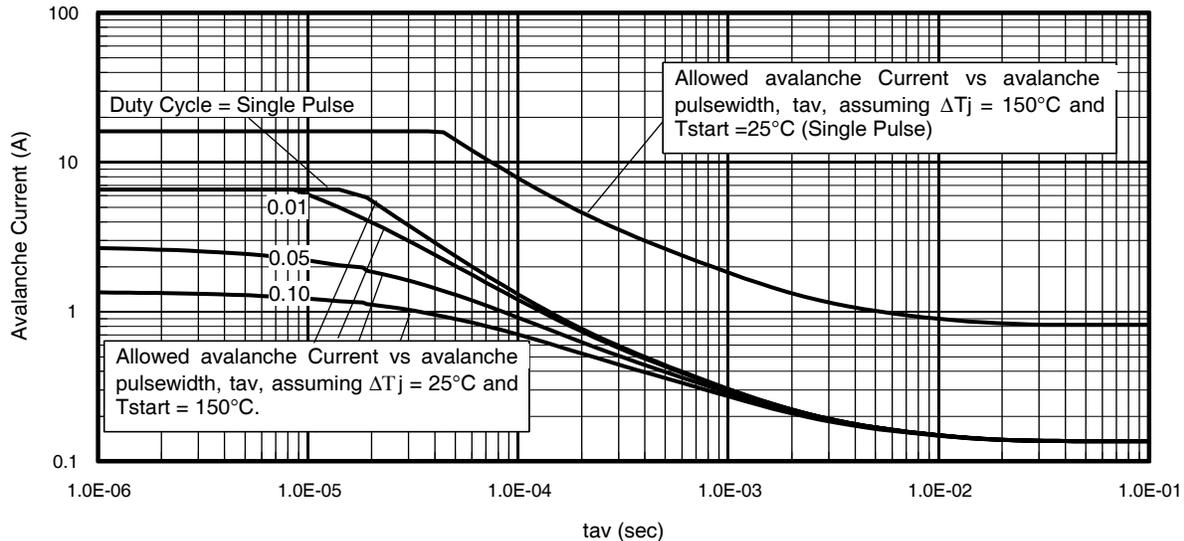

Fig 14. Typical Avalanche Current Vs. Pulsewidth
- ① Repetitive rating; pulse width limited by max. junction temperature.
- ② Starting T_J = 25°C, L = 1.46mH, R_G = 25Ω, I_{AS} = 10A.
- ③ Pulse width ≤ 400μs; duty cycle ≤ 2%.
- ④ R_θ is measured at T_J of approximately 90°C.
- ⑤ Limited by T_{jmax}. See Figs. 14, 15, 17a, 17b for repetitive avalanche information
Notes on Repetitive Avalanche Curves , Figures 14, 15:
7. ΔT = Allowable rise in junction temperature, not to exceed T_{jmax} (assumed as 25°C in Figure 14, 15).